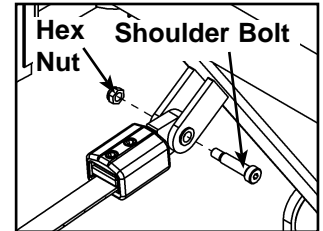

Figure 2
E. Locate the belt attached to the pivot shaft. Remove the shoulder bolt and hex nut securing belt to the pivot arm. Figure 2.
N. Connect other end of belt to the arm using the BHSCS and nylon locknut from step 4E. See Figure 2.